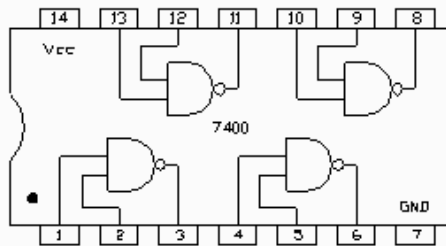

Figure 5: 7400 Pin configurations
- 5- Insert the 7400 IC into the bread-boarding socket, connect pin 14 to +5V and pin 7 to GND. Figure 5 shows the pin configuration for this IC.